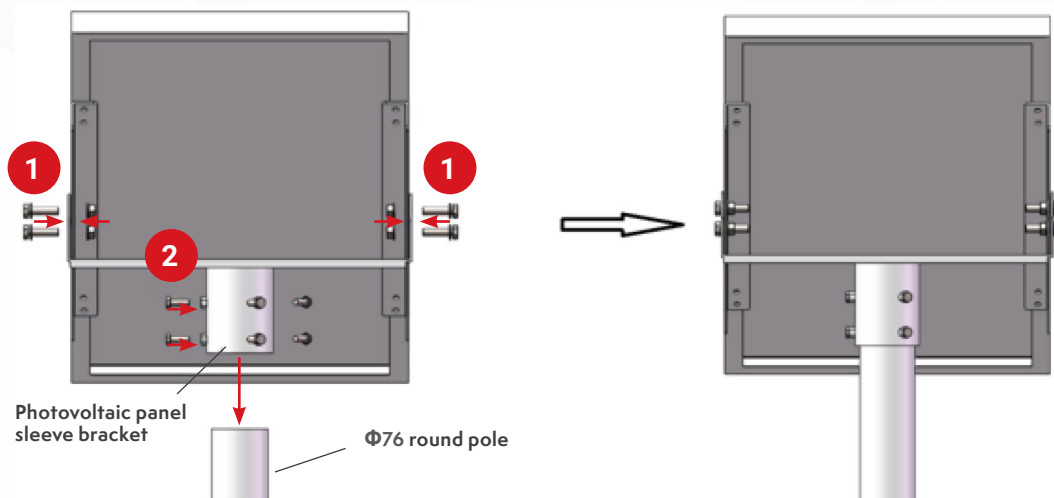

Figure 2 Installation of photovoltaic panels
- Step 1:** Use M10 \* 40 external hexagonal screws and double-sided flat pads to fix and connect the photovoltaic panel and the photovoltaic panel sleeve bracket (as shown in Figure 2)
- Step 2:** Fix the photovoltaic panel sleeve bracket onto the rod using M8 \* 25 external hexagonal screws (as shown in Figure 2)